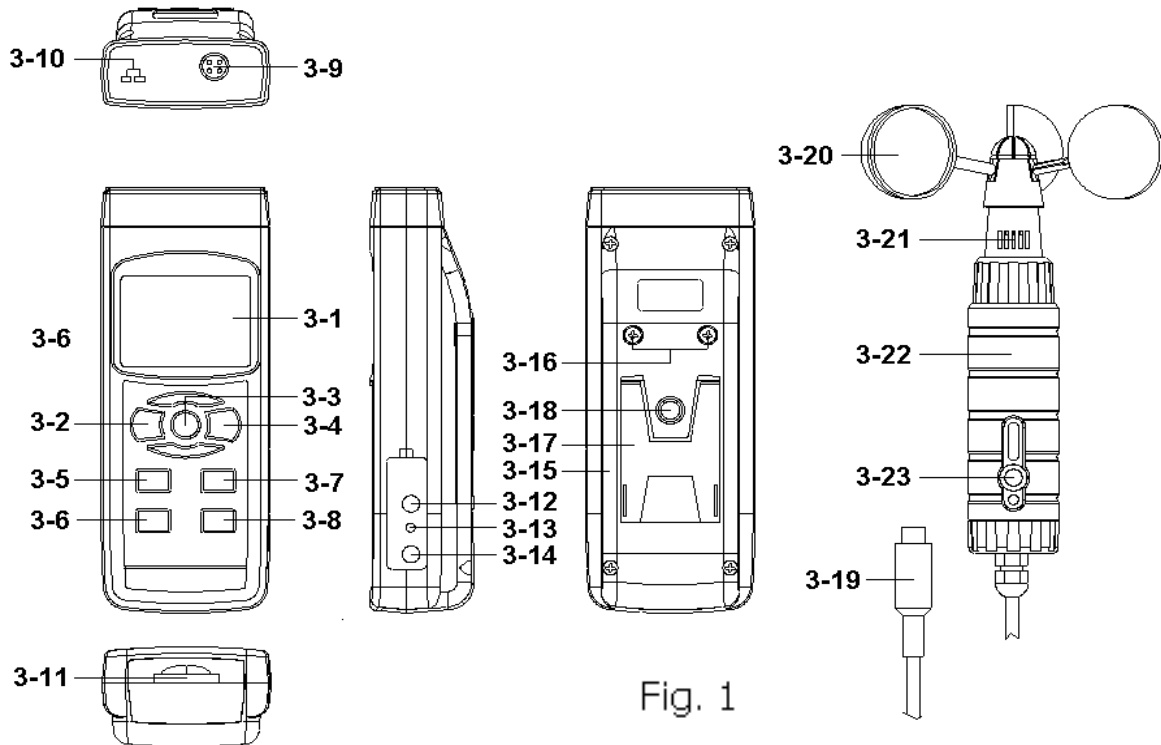

Fig. 1
1) Power on the meter by pressing the " Power button " ( 3-2, Fig. 1 ) > 1.5 seconds continuously.
Pressing the " Function Button " ( 3-7, Fig. 1 ) > 1.5 seconds continuously, the Display will show the following text in sequence :
Until the Display show the desired mode ( Function ), just release the " Function Button " ( 3-7, Fig. 1 ), the meter will execute this function with default.
- b. Plug the " Probe Plug " ( 3-19, Fig. 1 ) into the " Probe Input Socket " ( 3-9, Fig. 1 ).
- c. Hold the " Probe Handle " ( 3-22, Fig. 1 ) by hand or fix the " Probe handle " to the " Tripod " via " Tripod Fix Nut " ( 3-23, Fig. 1 ), then the Display ( 3-1, Fig. 1 ) will show air velocity directly. At the same time, the lower Display will show the air temperature value.
- b. Not install the " Anemometer Probe Plug " ( 3-19, Fig. 1 ) into the " Probe Input Socket " ( 3-9, Fig. 1 )
- c. Plug the Thermocouple Temp. Probe ( Type K Temp. probe pr Type J Temp. probe, optional ) into " Type K/J Probe Input Socket " ( 3-10, Fig. 1 )
During the measurement, press the " Hold Button " ( 3-3, Fig. 1 ) once will hold the measured value & the LCD will display a " HOLD " symbol.
- 1) The data record function records the maximum and minimum readings. Press the " REC Button " ( 3-4, Fig. 1 ) once to start the Data Record function and there will be a " REC " symbol on the display.
- a) Press the " REC Button " ( 3-4, Fig. 1 ) once, the " REC MAX " symbol along with the maximum value will appear on the display.
- b) Press the " REC Button " ( 3-4, Fig. 1 ) again, the " REC MIN " symbol along with the minimum value will appear on the display.
- c) Press the " REC Button " ( 3-4, Fig. 1 ) again, the the " MIN " symbol will be appeared, LCD only show the " REC " symbol, the meter start the Data Record function again.
- 3) To exit the memory record function, just press the " REC Button " ( 3-4, Fig. 1 ) > 1.5 seconds continuously. The display will revert to the current reading.
- 1) After power ON, the " LCD Backlight " will light automatically. During the measurement, press the " Backlight Button " ( 3-2, Fig. 1 ) once will turn OFF the " LCD Backlight ".
- 2) Press the " Backlight Button " ( 3-2, Fig.1 ) once again will turn ON the " LCD Backlight " again.
Prepare a " SD memory card " ( 1 G to 16 G, optional ), insert the SD card into the " SD card socket " ( 3-11, Fig. 1). The front panel of the SD card should face against the the down case.
Press the " LOG Button ( 3-8, Fig. 1 ) > 1.5 seconds continuously, the lower LCD will show the text of " Log " ( or show " Log " with the Temp. value alternately ), then " REC " symbol will flashing per sampling time, at the same time the measuring data along the time information will be saved into the memory circuit.
During execute the Datalogger function, if press the " LOG Button " ( 3-8, Fig. 1 ) once will pause the Datalogger function ( stop to save the measuring data into the memory circuit temporally ). In the same time the the " REC " symbol will stop flashing, the lower LCD will show the text of " Log " ( or show " Log " with the Temp. value alternately ).
*If press the " LOG Button " ( 3-8, Fig. 1 ) once again will execute the Datalogger again, the " REC " symbol will flashing.*
During execute the Datalogger function, press the " LOG Button ( 3-8, Fig. 1 ) > 1.5 seconds continuously again will finish the Datalogger function, the " Log " text will be disappeared and finish the Datalogger. function.
Press the " LOG Button ( 3-8, Fig. 1 ) > 1.5 second , the lower LCD will show the " Position no. " ( or show the Position no. with the Temp. value alternately ), then press the " LOG Button " ( 3-8, Fig. 1 ) once, the " REC " symbol will flashing once and Beeper will sound once, at the same time the measuring data along the time information will be saved into the memory circuit.
*During execute the Manual Datalogger, it can use the " ▲ Button " ( 3-5, Fig. 1 ) or " ▼ Button " ( 3-7, Fig. 1 ) to set the measuring position ( 1 to 99, for example room 1 to room 99 ) to identify the measurement location , the lower Display will show P x ( x = 1 to 99 ).*
During execute the Datalogger function, press the " LOG Button ( 3-8, Fig. 1 ) > 1.5 seconds continuously again will finish the Datalogger function, the Position no. " PXX " will be disappeared and finish the Datalogger. function.
During the normal measurement ( not execute the Datalogger ), If press " Clock Button " ( 3-6, Fig. 1 ) ) once , the lower LCD display will present the time information of Year/Month, Date/Hour, Minute/Second and the Sampling time information in sequence.